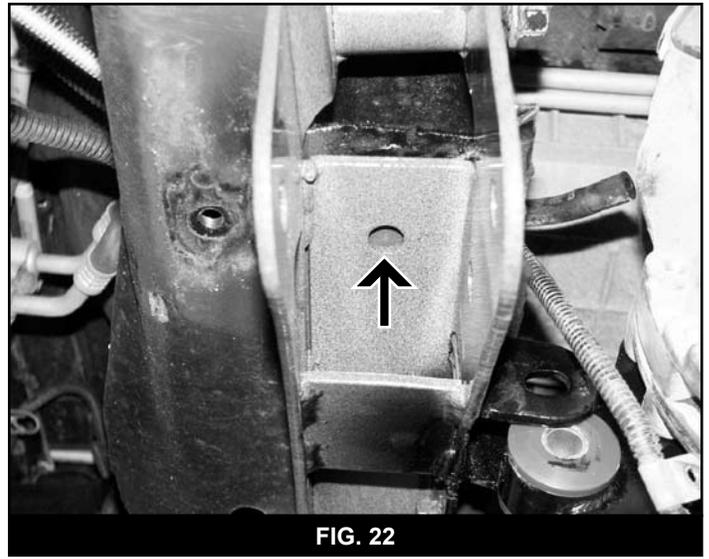

FIG. 22
48. Using the holes in the crossmember as a template, drill out two 1/2" holes in the frame. Install two 1/2" x 1-1/4" bolts with nuts and 7/16" USS washers from bolt pack #510 to retain crossmember to the frame (Fig 22).